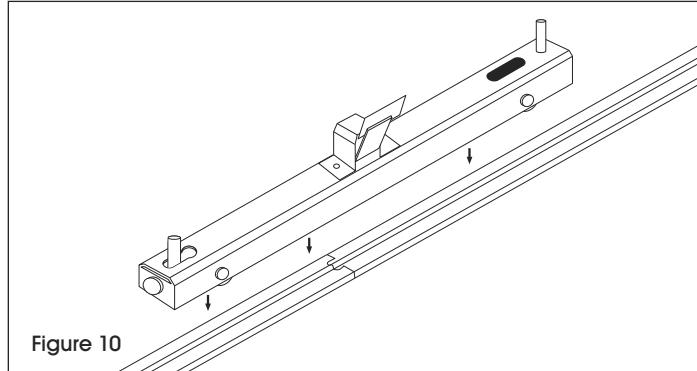

Figure 10
4. Place roller assemblies on track. (See Figure 10)